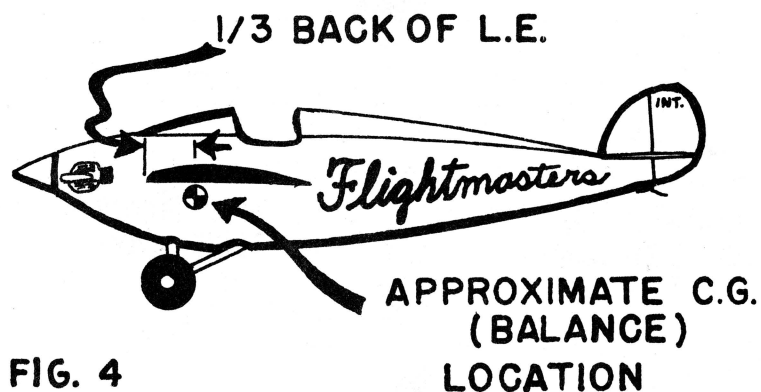

FIG. 4
3. Balance plane at about 35% of chord, that is, the plane should balance "teeter-totter" fashion about $1/3$ of the way back from the leading edge of the wing. Add clay to nose if necessary. (Fig. 4)